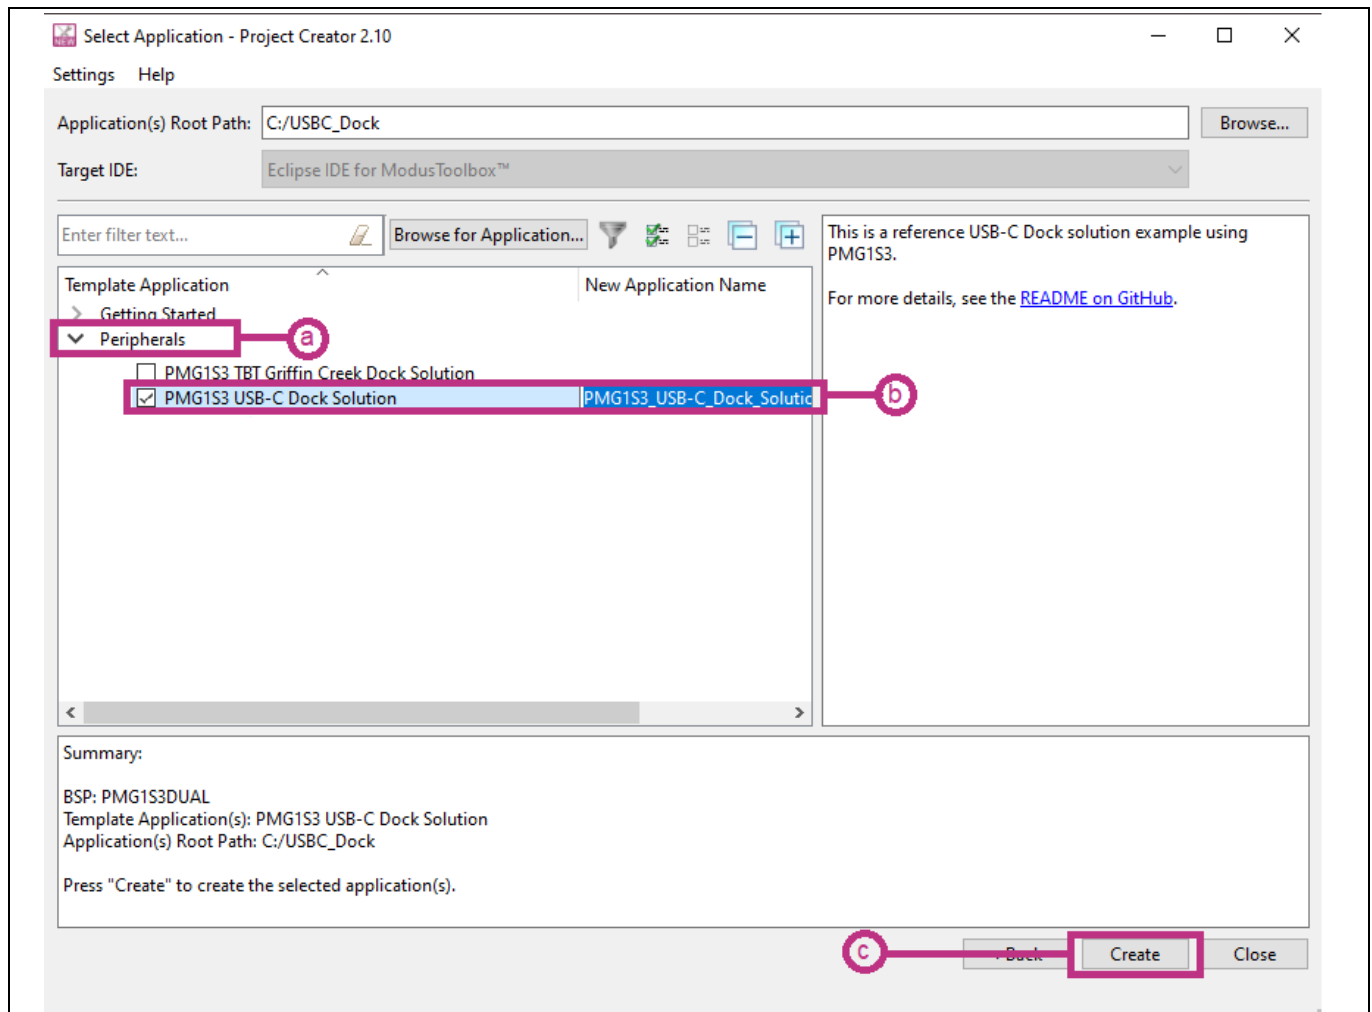

Figure 5 Selection of reference project
4. Do the following in the next window (see Figure 5):
For example, in Figure 5, PMG1-S3 USB-C Dock Solution is selected and created.